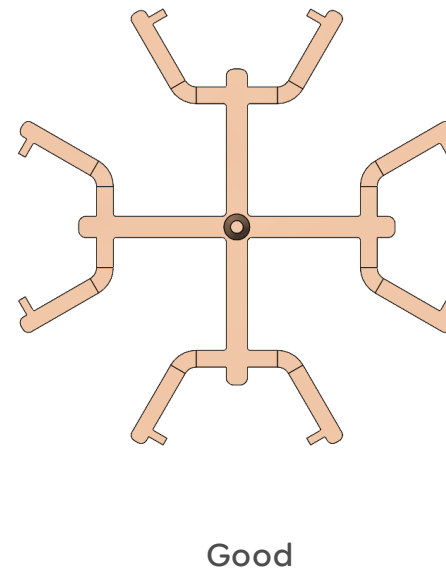

Fig. 2-4 : Not good
- To prevent the risk of gate splay or blush marks, a cold slug well must be set included (Fig. 2-4 and 2-5).